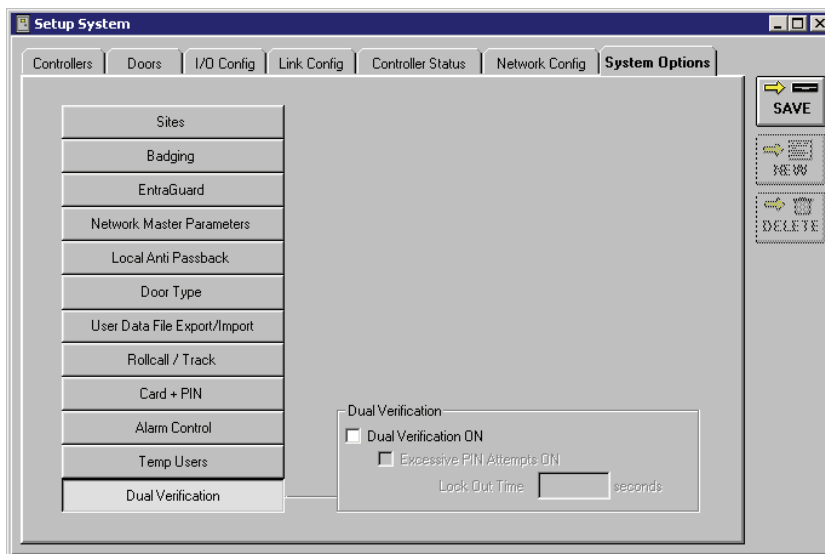

Figure 14-1: System Options Tab - Dual Verification Disabled
2. Click on the  button. The System Options window will reveal the field for enabling dual verification (see Figure 14-1).